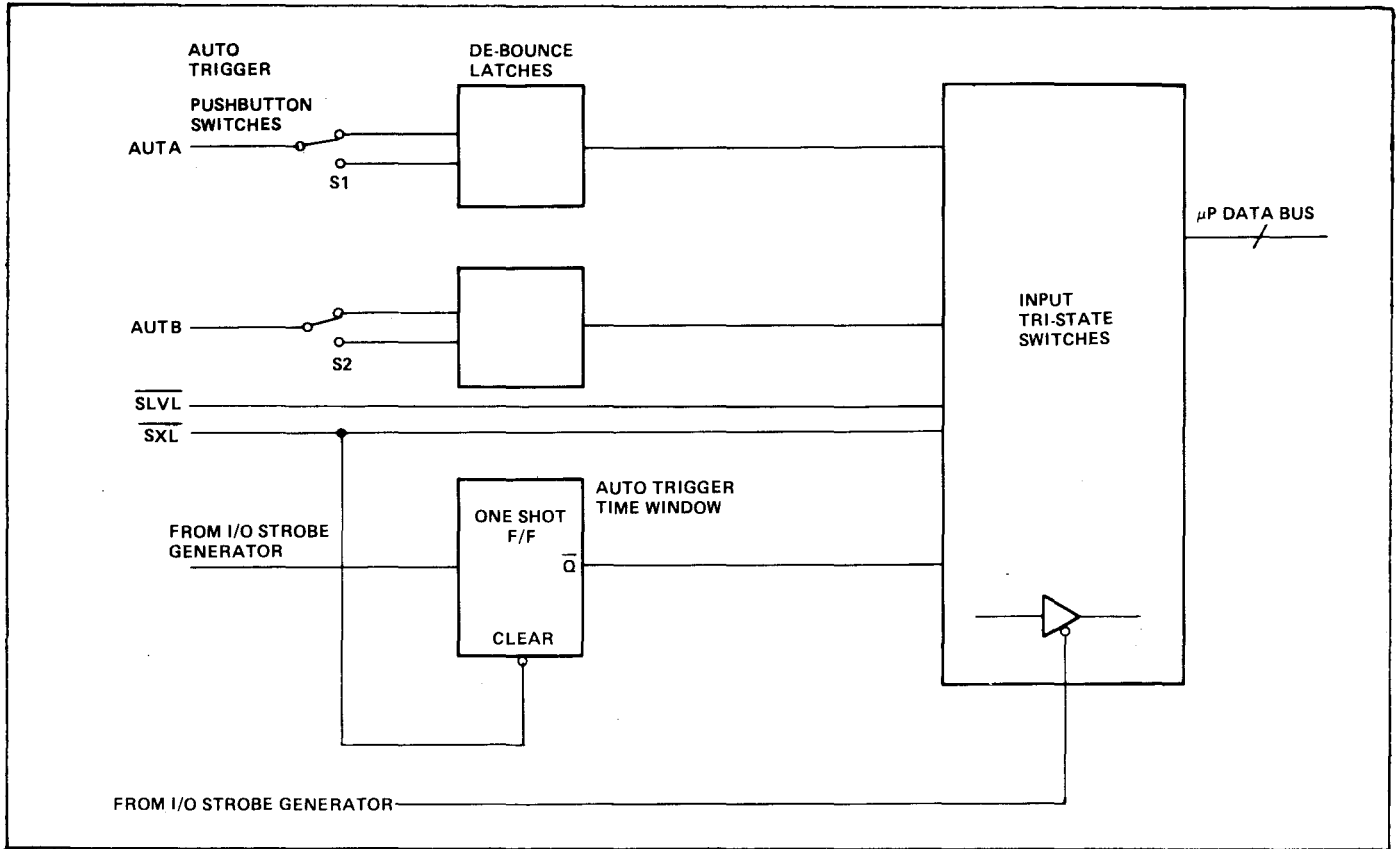

Figure 1.47 - Auto Trigger Logic
1.5.3.4.1 Refer to figure 1.47 for the following discussion. Whenever the front panel range switches for channels A and B are set to the auto trigger mode position the signals AUTA and AUTOB will be low respectively. If the auto trigger pushbutton for channel A is pressed, the de-bounce flip-flops will send a signal to the input hi-state switches. The processor detects auto trigger commands by periodically enabling the tri-state switches. If a switch closure is detected, the processor will bring RMT low while leaving CNF high and send the function code corresponding to Auto Trigger channel A or B to the main logic board.